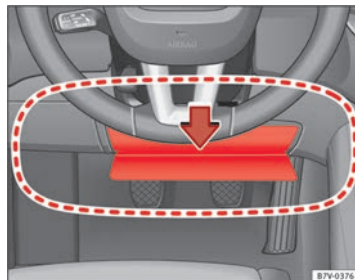

Fig. 25 On the driver side: Radius of action of the knee airbag
The area framed red ⇒ Fig. 25 (A) is covered by the knee airbag when it is deployed (deployment area). Therefore, objects should never be placed or mounted in these areas.